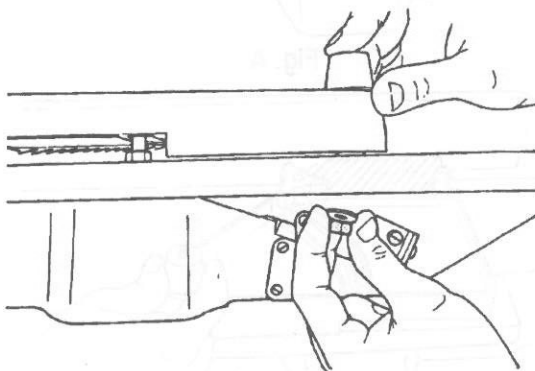

Fig. 13
22. Attach a washer (12) and hex nut (13) to the stud, as shown in Fig. 13. Use a 1/2" socket wrench to securely tighten the hex nut (13).